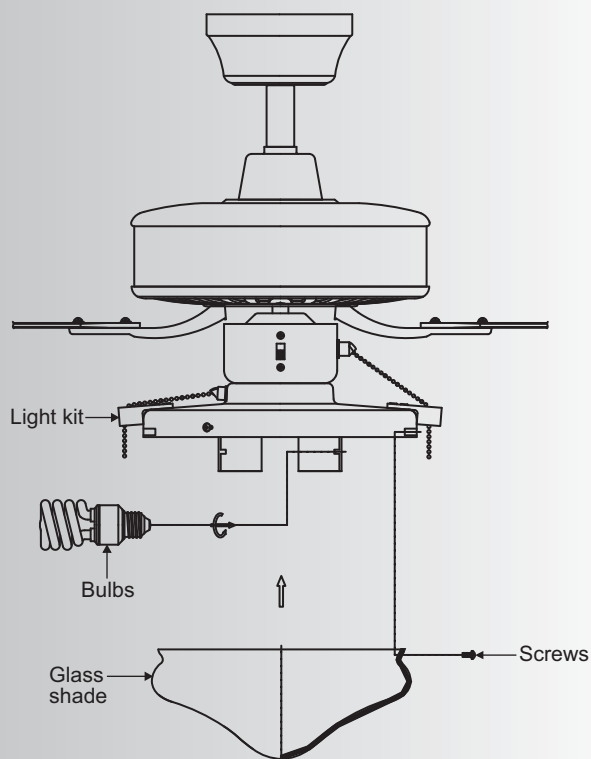

Fig. 18
Step 2. Raise glass shade up against the light kit and secure with the screws provided. (Fig. 18)